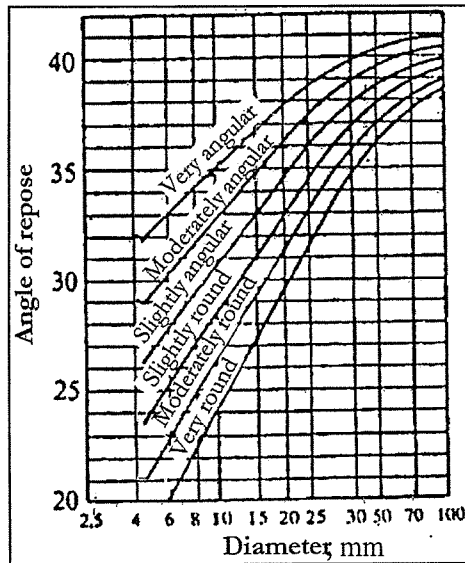

Figure 1: Angle of repose of non-cohesive material with respect to d₇₅ (Lane, 1953)
- a. An irrigation canal has to carry a discharge of 15 m³/s through a moderately rounded coarse non-cohesive material having d₅₀ = 2.5 cm, d₇₅ = 3 cm and n = 0.025. The canal is to be trapezoidal in shape having s=2 and laid on a slope of 1 in 1000. Design the canal cross-section using the method of Lane (bottom width, depth, freeboard). Complete at least two trials utilizing Figures 1 and 2. [30]